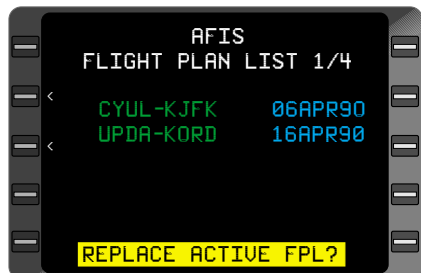

Figure 7-129
4. **ENTER** Key - DEPRESS to replace Active Flight Plan with Updated Flight Plan. (Figure 7-129)